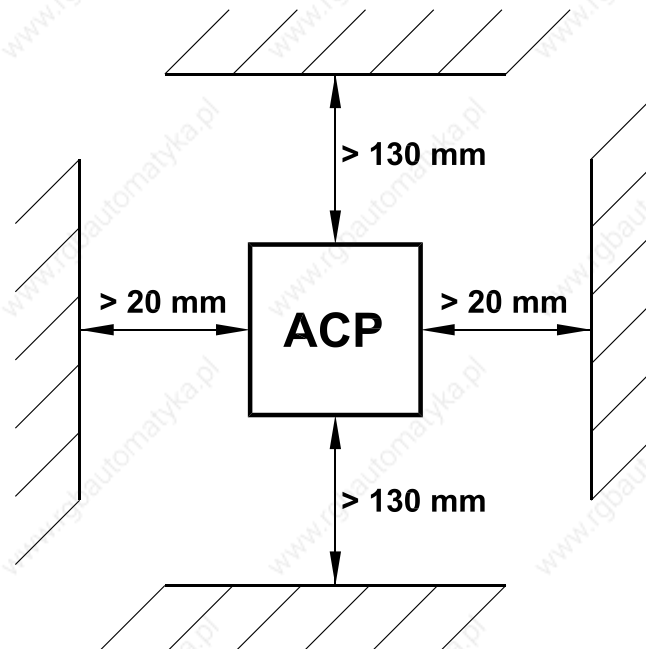

Figure 2.1
- C. The ACP inverter generates heat, and therefore there must be a sufficient amount of free space around the unit (see Figure 2.1). If the unit is accommodated in a housing together with a different unit, the prescribed minimum distances must be observed so that adequate ventilation can be ensured.